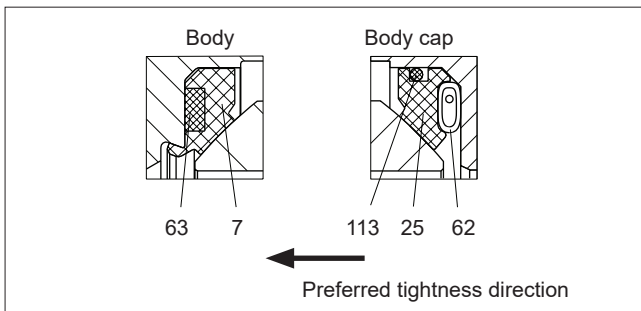

Fig. 22 E-seat
- **E-seat:** Place the back seal (113) in the groove of the seat outer circle (25), Fig. 22. Place the spring (62) in the body. Place the seat in position, please use extra caution not to damage the back seal (113) to the seat pocket edges.